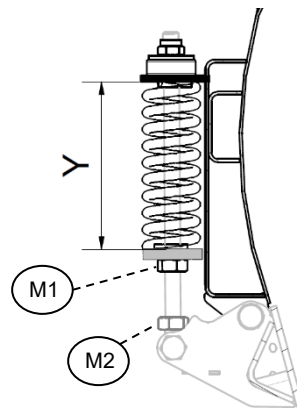

Figure 21
- 2) Tighten nut M1 upwards two turns at a time and test operate. Repeat until the tension is just right – see Figure 21
- 5) Tighten nut M2 downwards – see Figure 21
- 6) Tighten nut M1 downwards two turns at a time and test operate. Repeat until the tension is just right – see Figure 21